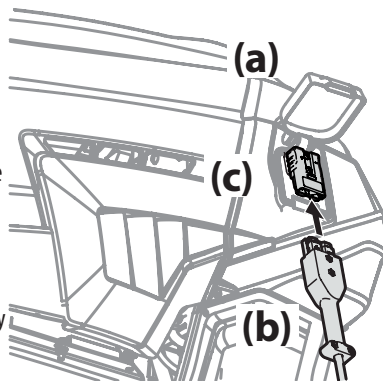

Figure 13
1. Lift the charging port cover (a). See Figure 13.
2. Insert the charging cord (b) into the charging port (c). See Figure 13.